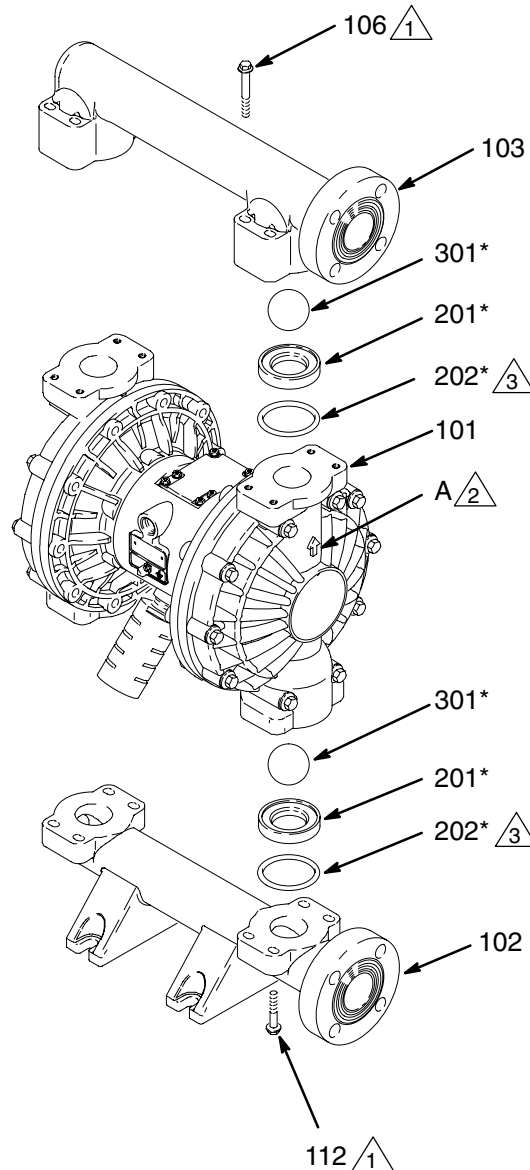

Fig. 11
3. Using a 10 mm socket wrench, remove the eight bolts (106) holding the outlet manifold (103) to the fluid covers (101). See Fig. 11.
4. Remove the seats (201), balls (301), and o-rings (202) from the manifold.
**NOTE:** Some models do not use o-rings (202).
5. Turn the pump over and remove the bolts (112) and inlet manifold (102). Remove the seats (201), balls (301), and o-rings (202) from the fluid covers (101).
2. Reassemble in the reverse order, following all notes in Fig. 11. Be sure the ball checks are assembled **exactly** as shown. The arrows (A) on the fluid covers (101) **must** point toward the outlet manifold (103).
- 2 Arrow (A) must point toward outlet manifold (103).